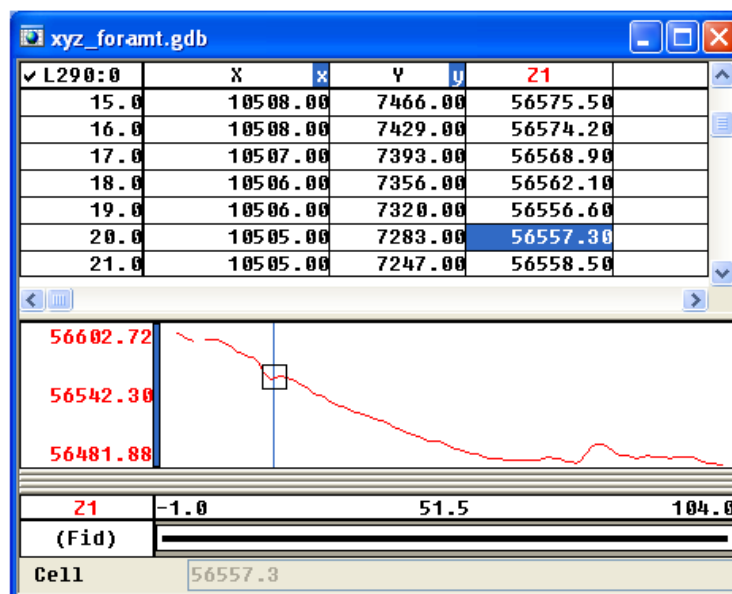

Figure 1.70. – Displaying a profile window
2. The system displays a profile of the data channel in the *Profile Window* below the spreadsheet, fig.1.70.